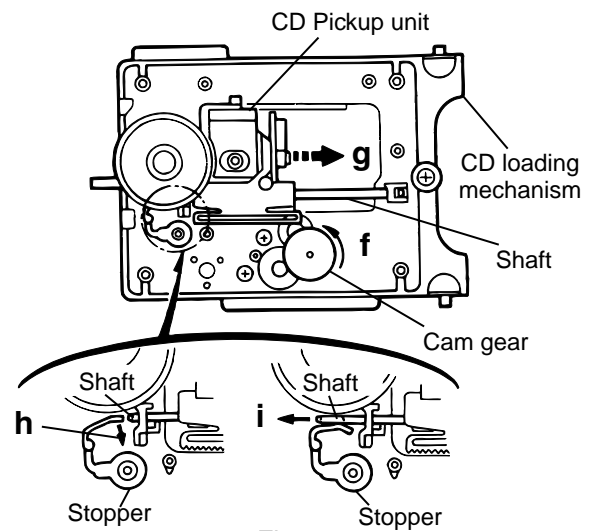

Fig.40
■ Removing the CD pickup unit (See Fig.40)